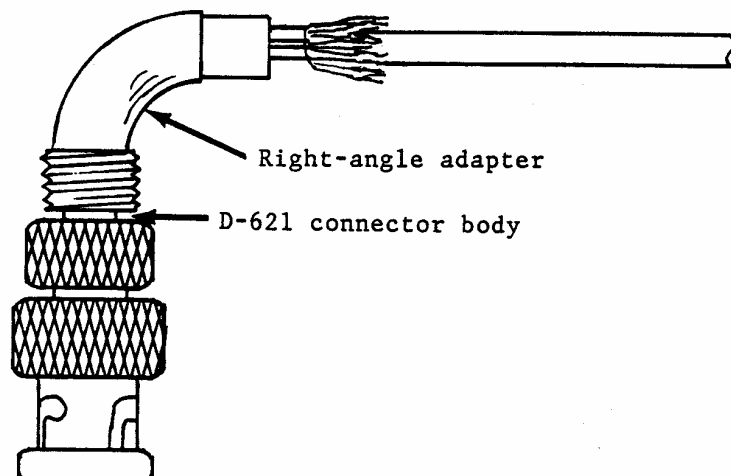

Figure 8-2. End of Connector Body Positioned In Right-Angle Adapter
2. Slide the cable back through the right-angle adapter until the end of the connector body slips into the right-angle adapter (Figure 8-2).